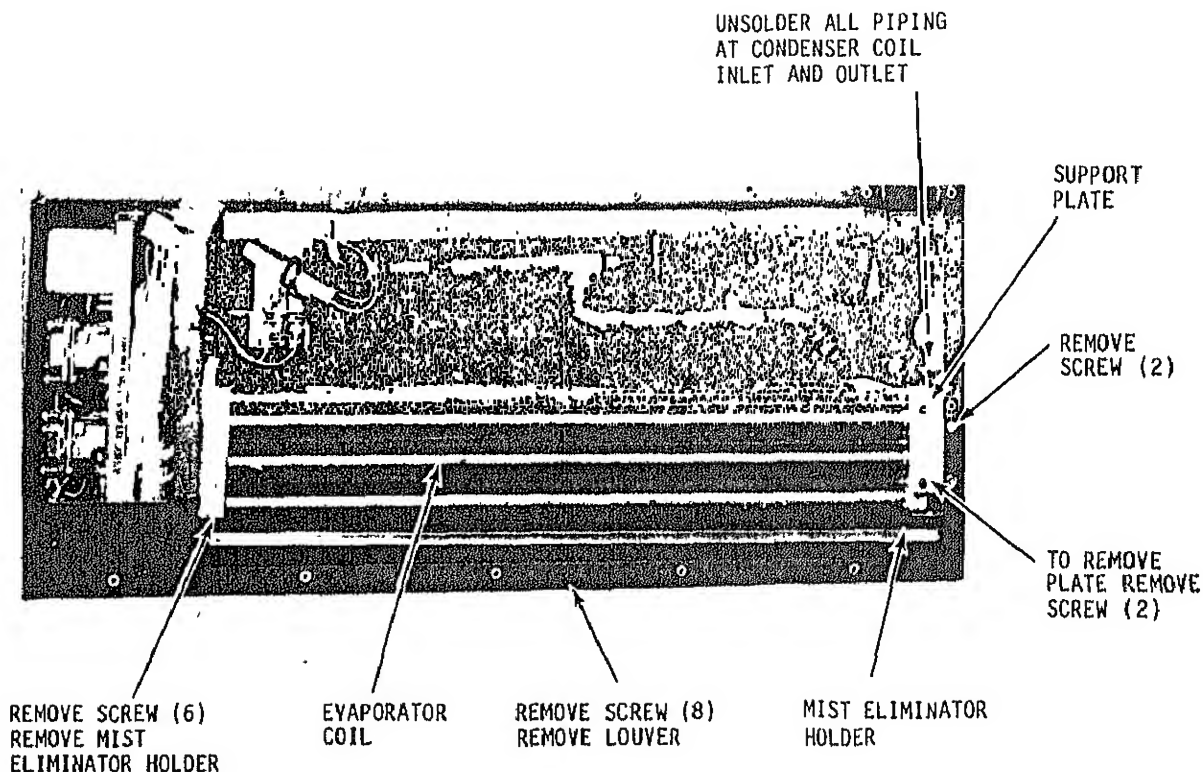

Figure 5-3. Evaporator coil and mist eliminator holder, removal and installation
(4) Refer to para 4-30 and remove heating elements.
(5) Refer to figure 5-3 and remove support plate that holds coil to housing.
(6) Refer to figure 5-3 and disconnect tubing from evaporator coil.
(7) Remove six screws, washers, and lockwashers that hold evaporator coil and mist eliminator holders to air conditioner. Remove holders and coil.
(1) Install coil and mist eliminator holder in air conditioner and secure to brackets with six screws, washers, and lock washers. The upper four screws, washers and lockwashers attach both the coil and mist eliminator holder; the lower two hold the coil only.
(2) Refer to figure 5-3 and install coil support plate.
(3) Connect tubing to coil. Leak test as described in 5-6.